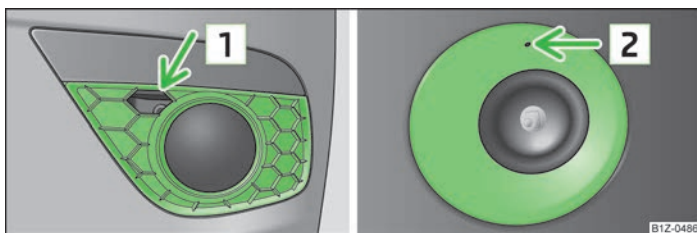

Fig. 165 Front bumper: Octavia RS/Octavia Scout
- Insert a finger into the opening **1** » Fig. 165 (Octavia RS) and remove the cap.